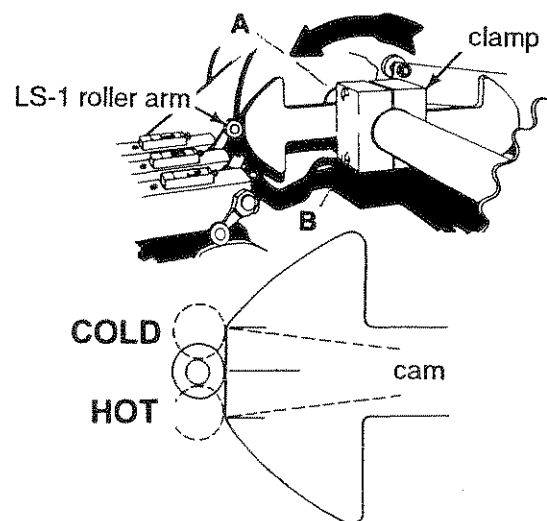

Fig. 43
7. Loosen and tighten appropriate clamp bolts (A) and (B) in order to rotate cam as necessary to center it on the switch arm roller, see Fig. 43.
14. Check needle yoke stopping position. The cam should stop with the switch arm roller near the center or slightly beyond the center of the cam as illustrated in Fig. 43. Note HOT and COLD cam locations.
17. Repeat steps 8 thru 16, (omitting step 15), until the cam is in the required location, see Fig. 43.